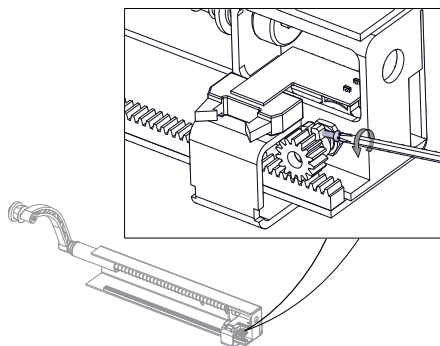

Fig. 16:
4. keeping the 4 value displayed on the board, release the screw on the ring nut (fig.16);